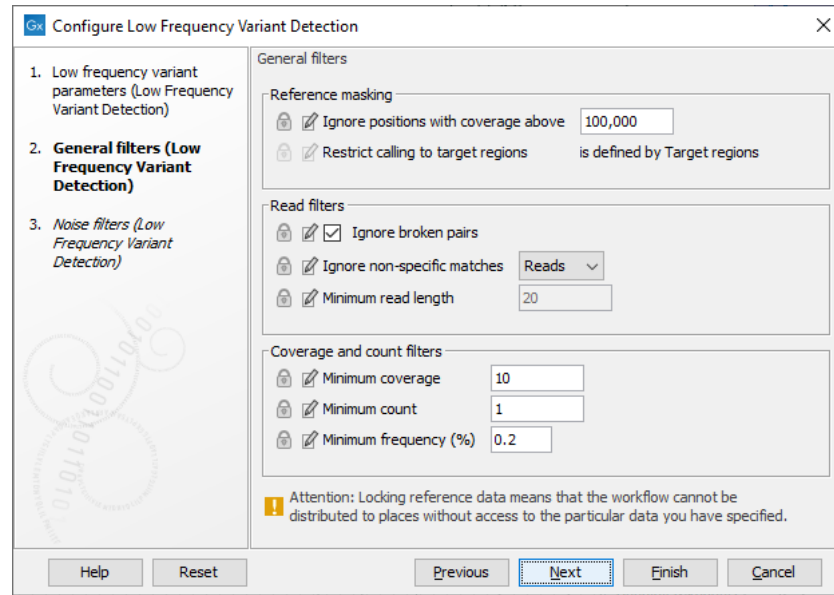

Figure 5: Adjust the settings for the Low Frequency Variant Detection step by reducing the Minimum count to 1 and the Minimum frequency to 0.2%
7. In the "General filters" dialog, change the value for the "Minimum count" to 1 and "Minimum frequency" to 0.2. The dialog should now look like that shown in figure 5.